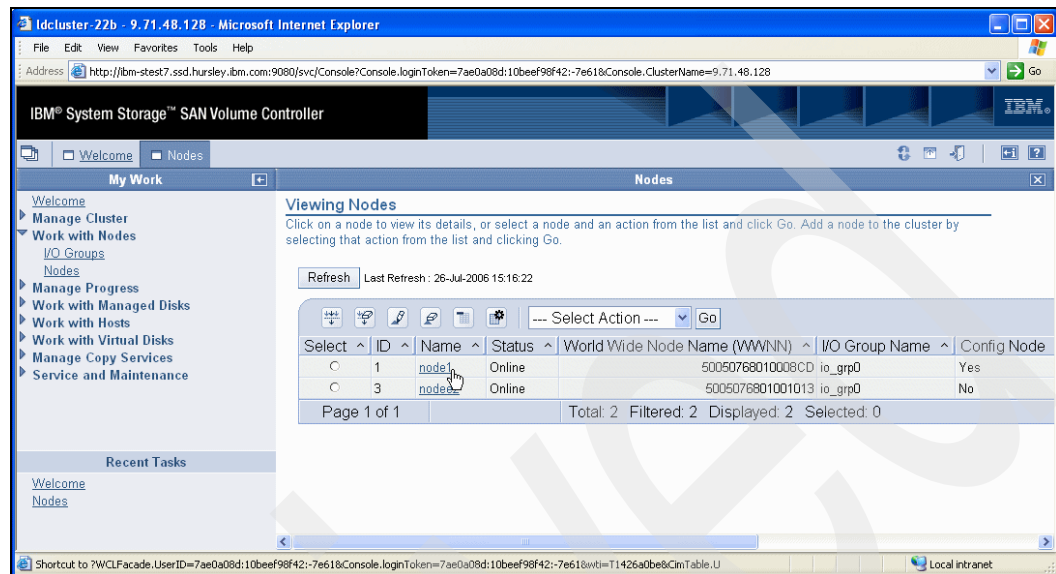
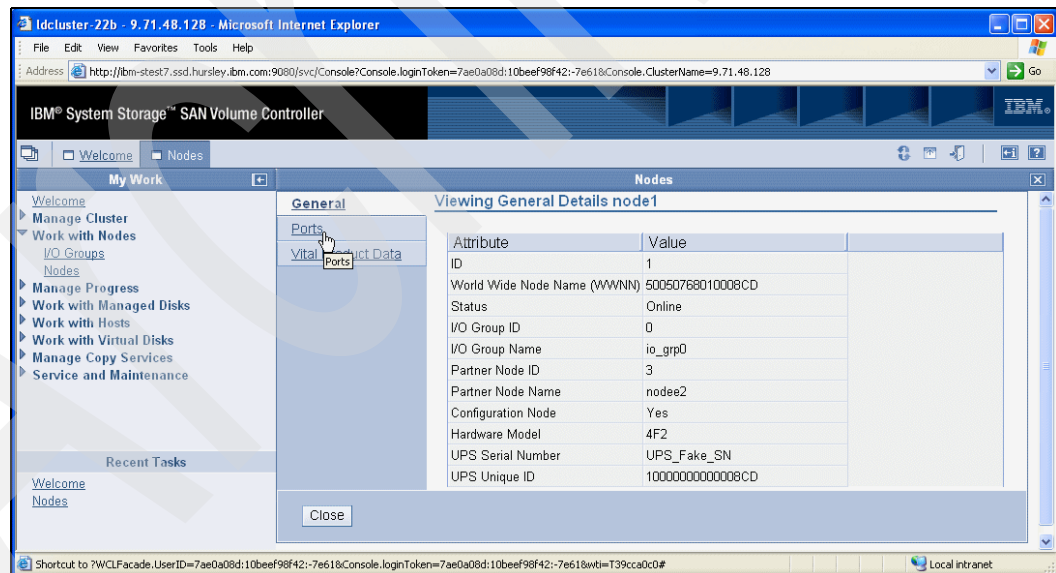
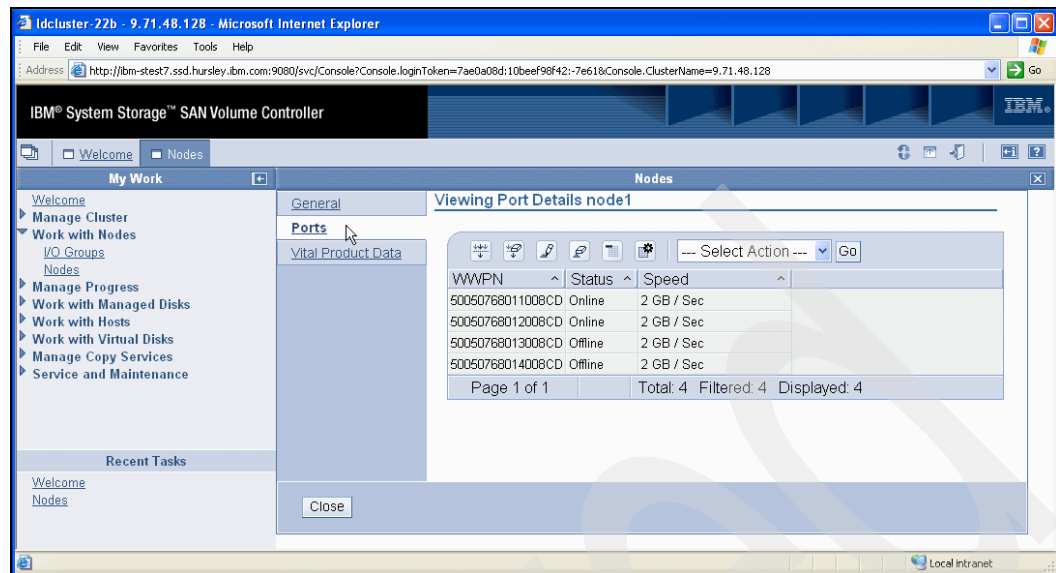

Figure 6-9 Selecting the node to determine the associated WWPNs
Figure 6-10 Selecting the Port Information for the node
Figure 6-11 List of WWPNs for the node
Figure 6-9 shows the resulting GUI panel on our system.
3. Select each node in turn by clicking the node name link (Figure 6-9). The panel shown in Figure 6-10 is then presented, showing general data about that node.
4. Select the Port information link (Figure 6-10) to show the four WWPNs associated with that node. You will see a panel similar to Figure 6-11. Record the WWPNs to enable you to map the EMC FC4700 LUNs to the SAN Volume Controller later on.